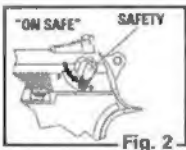

Fig. 2
- Rotate the safety lever to the lower position until it stops, covering the RED indicator. (Fig. 2) The safety is not on unless the safety lever is moved all the way to the lower position and the red indicator is not showing. The air pistol will not fire when "On Safe". Even when the safety is "On Safe", you should continue to handle the air pistol safely. Do not ever point the air pistol at any person. Do not ever point the air pistol at anything you do not intend to shoot.